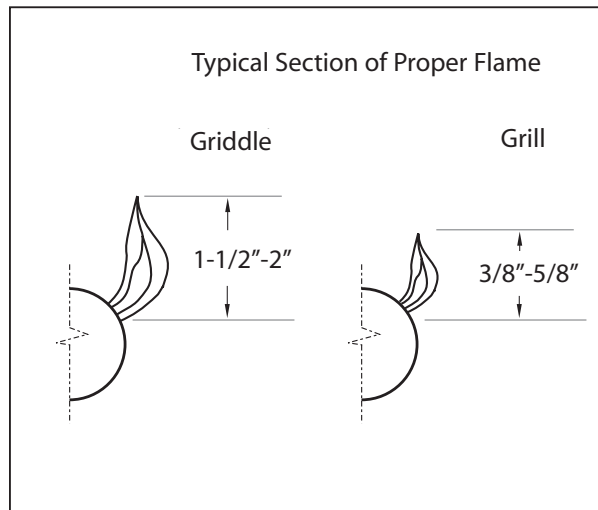

Fig. 10
Check for the proper burner flame characteristics and adjust air shutters if necessary (fig. 10). Each air shutter is individually tested and adjusted prior to shipment. Normally adjustment is not required, however, vibration during transit, or variations in the local gas supply may make minor adjustments necessary. Burner flames should be blue and stable with no yellow tips, excessive noise or lifting of the flame from the burner. If any of these conditions exist, check that the air shutter or burner ports are not blocked. If this condition persists, adjust the air shutter as required. If the flame is too yellow, indicating insufficient air, adjust the shutter counterclockwise to increase air inlet. If the flame is noisy or tends to lift away from the burner, indicating too much air, turn the shutter clockwise to reduce air. The griddle flames should be 1-1/2" to 2". The grill burner flames should be 3/8" to 5/8" (fig. 10).
- ☐ Flame adjustment made on air shutter of griddle, or grill burner, (figs. 10).